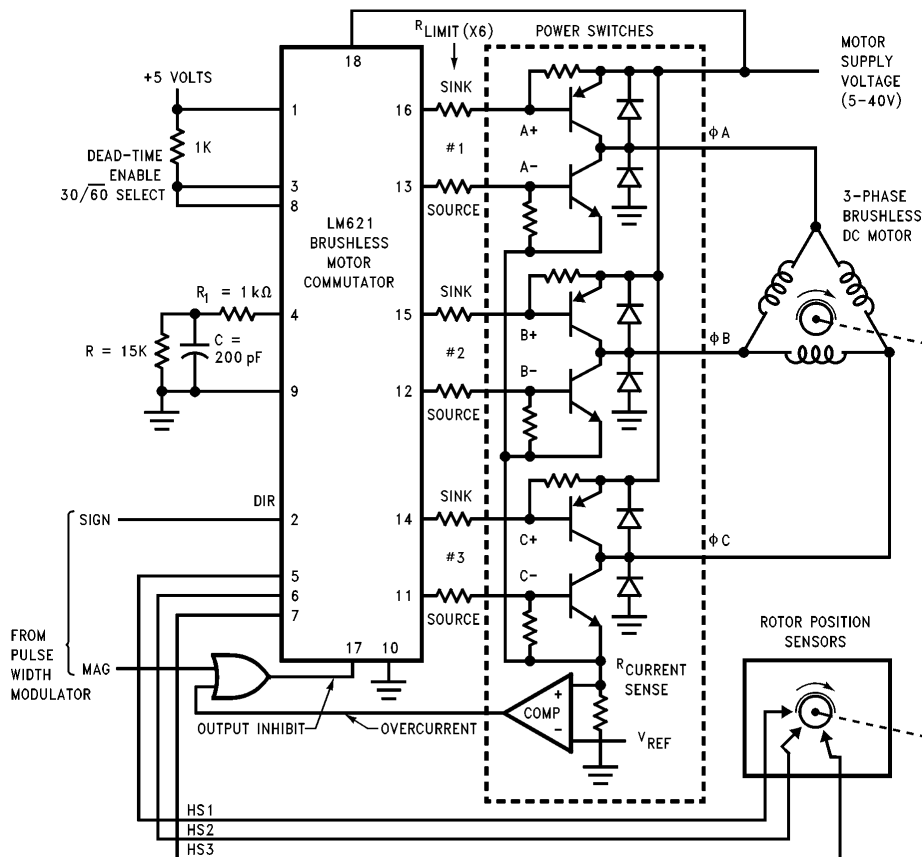
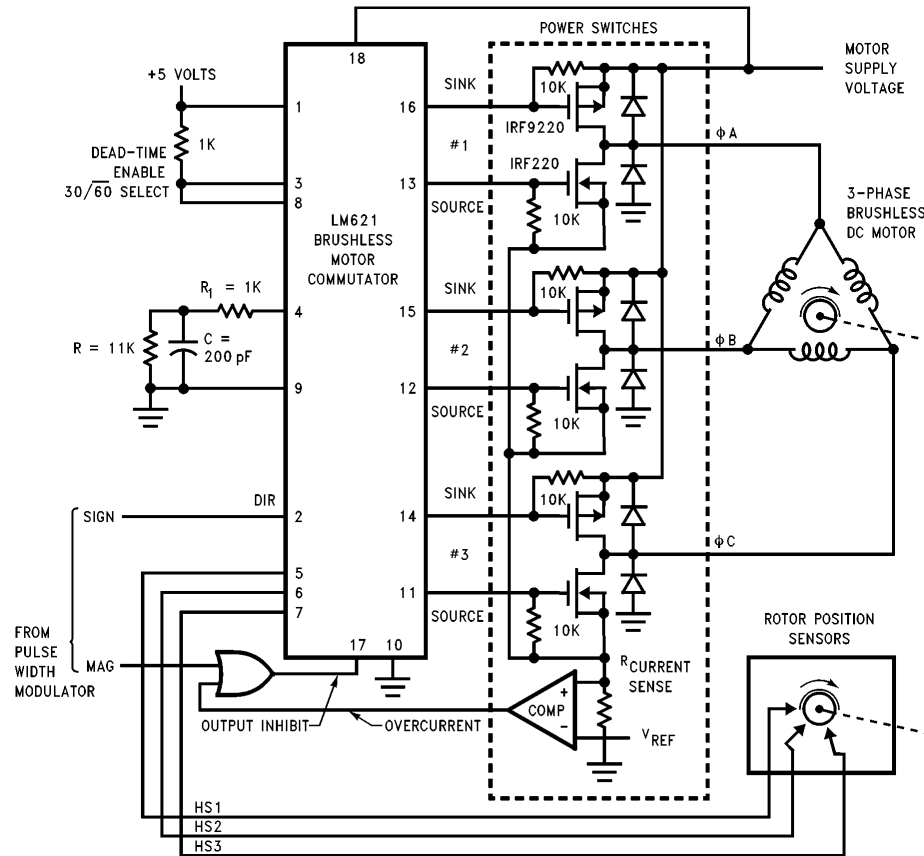

FIGURE 4. Commutation of Three-Phase Motor (Bipolar Switches)
FIGURE 5. Commutation of Three-Phase Motor (MOSFET Switches)
*Figure 4* is a typical LM621 application. This circuitry is for use with a three-phase motor having 30-degree sensor phasing, as indicated by connection of the 30/60 SELECT input, pin 8, to a logic "1" (+5V). The same connection of the DEAD-TIME ENABLE input, pin 3, enables this feature. Typical power switches and a simple implementation of an
overcurrent sensing circuit are also detailed in *Figure 4*. This application example assumes a device turn-off time of about  $4.8 \mu\text{s}$  maximum, as evidenced by the choice of R and C. See Typical Performance Characteristics. The choice of RC should be made such that two periods are at least equal to the maximum device turn-off time.
The choice of the value for  $R_{\text{LIMIT}}$  (the resistors which couple the LM621 outputs to the power switches) depends on the input current requirements of the power switching devices. These resistors should be chosen to provide only the amount of current needed by the device inputs, up to 50 mA (typical). The resistors minimize the dissipation incurred by the LM621. Although *Figure 4* shows the 5–40V supply (pin 18) connected to the motor supply voltage, this was done only to emphasize the ability of the part to provide up to 40V output swings. For the bipolar power switches shown, connecting pin 18 to a 5V supply would reduce on-chip power dissipation. Driving FET power switches, however, may require connecting pin 18 to a higher voltage. *Figure 5* is the three-phase application built with MOSFET power-switching components. Note that since the output  $V_{\text{drop}}$  (sourcing) is at least 1.5V,  $V_{\text{CC2}}$  can be chosen to avoid overdriving the MOSFET gates.